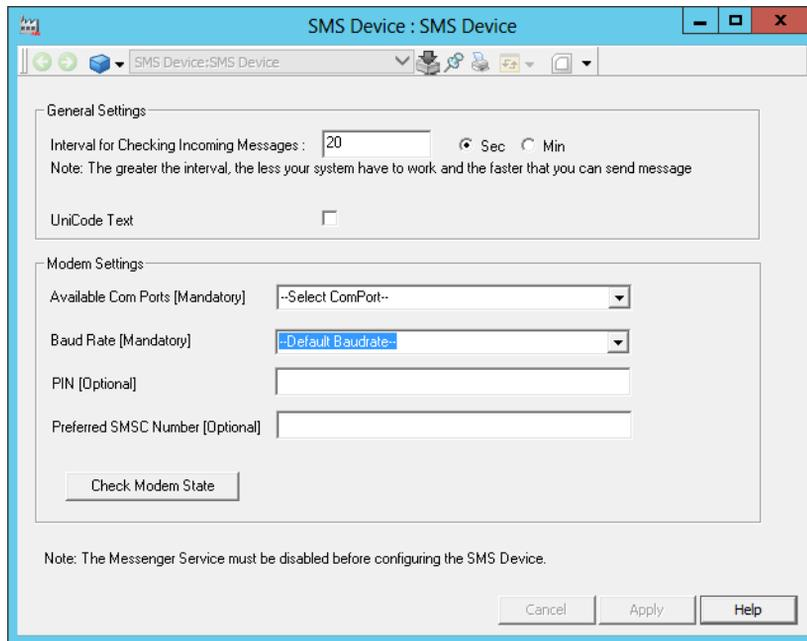

Figure 93. SMS Device
4. Select SMS Device in Aspect List Area as shown in Figure 93.